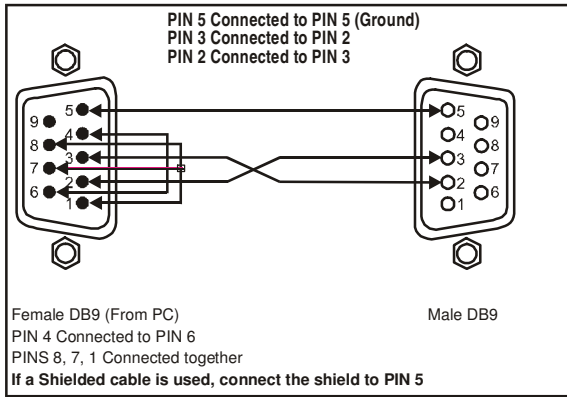

Figure 4: Connecting a PC without using a Null-modem Adapter
- Connect the RS-232 DB9 port on your PC to the RS-232 DB9 rear panel port on the **PIP-300** unit, as Figure 4 illustrates